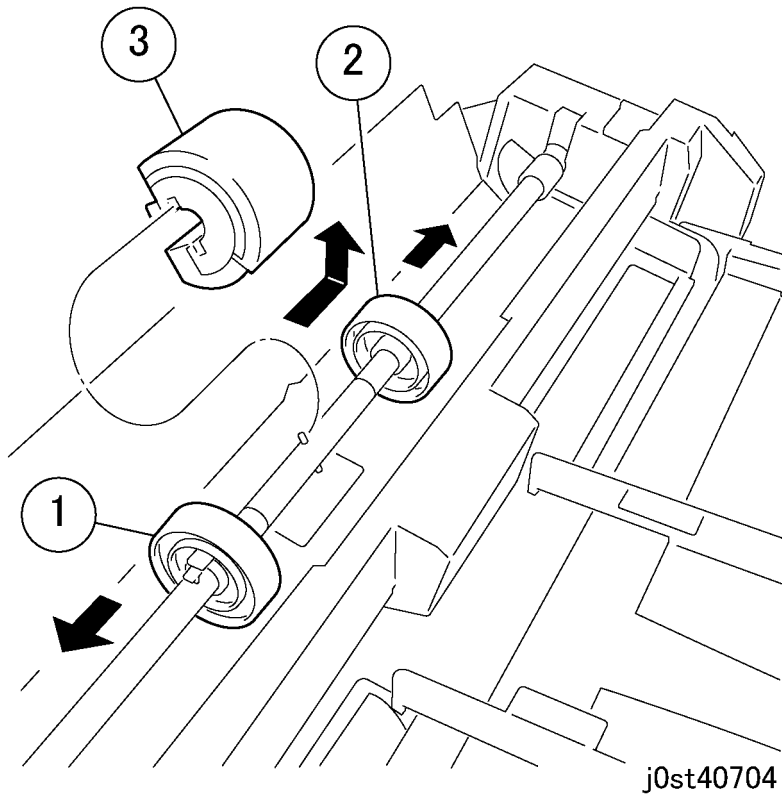

Figure 2 Removing the MSI Feed Roll
3. Remove the MSI Feed Roll. (Figure 2)